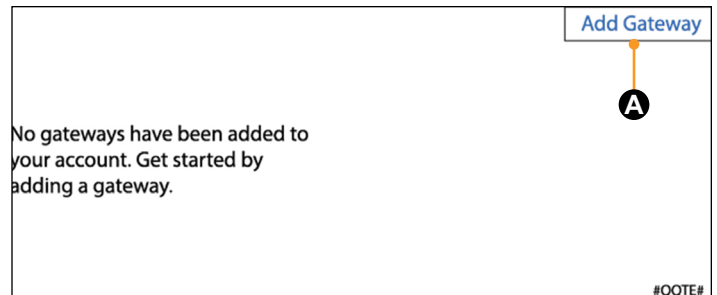

Fig.30
4. Scroll down to the "Add Gateway" section (Fig.30).